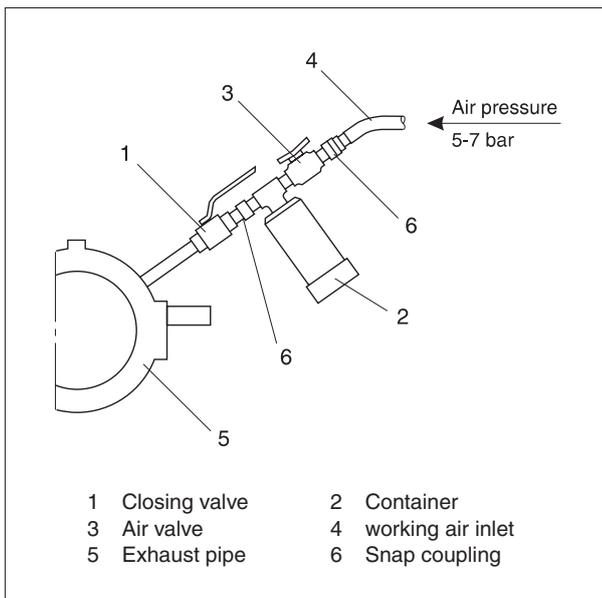

Fig 1 Arrangement of dry cleaning of turbocharger - Turbine.
2) Before connecting the "blow-gun" open the closing valve (1), see fig 1 and check whether there is free passage.
3) Fill cleaning granulated substance into the container (2) for turbocharger type: